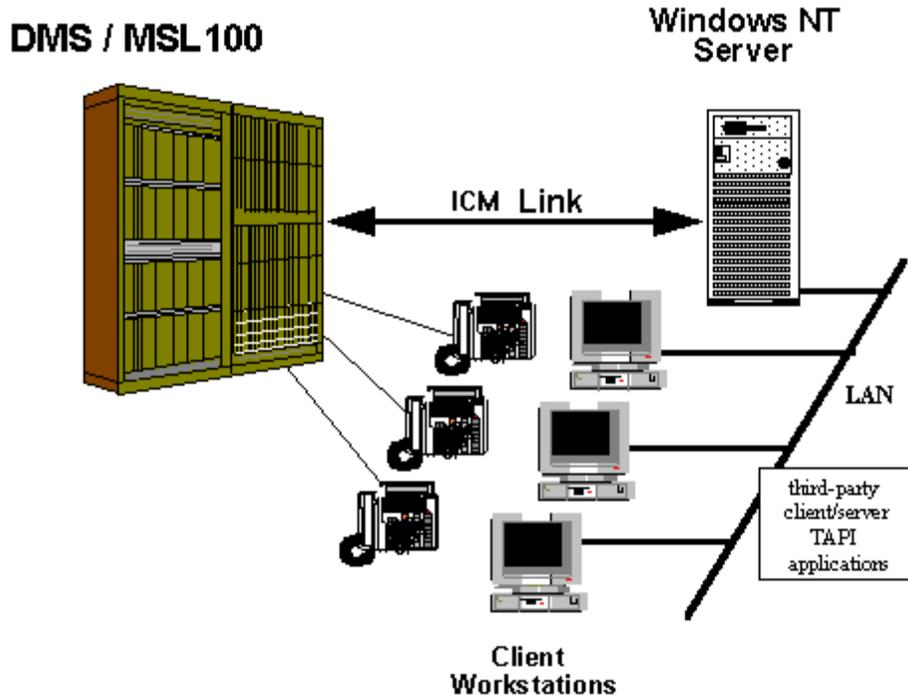

Figure 1 TAPI Driver for ICM Overview
- Figure 1 TAPI Driver for ICM Overview 12**